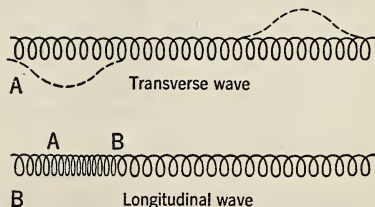

FIG. 393. Diagram A shows transverse waves. Diagram B shows longitudinal waves.
357. There are two kinds of vibration. 1. *Transverse*. Let us fasten the ends of a stretched spiral spring several feet long and then pluck the spring at right angles to its length. (See Fig. 393*A*.) A wave is set up which travels along the spring from one end to the other and then returns by reflection. A wave that moves at right angles to the path along which it travels is a *transverse wave*.
2. *Longitudinal*. Suppose we compress several turns of the stretched spiral spring of Fig. 393*B* and then re-